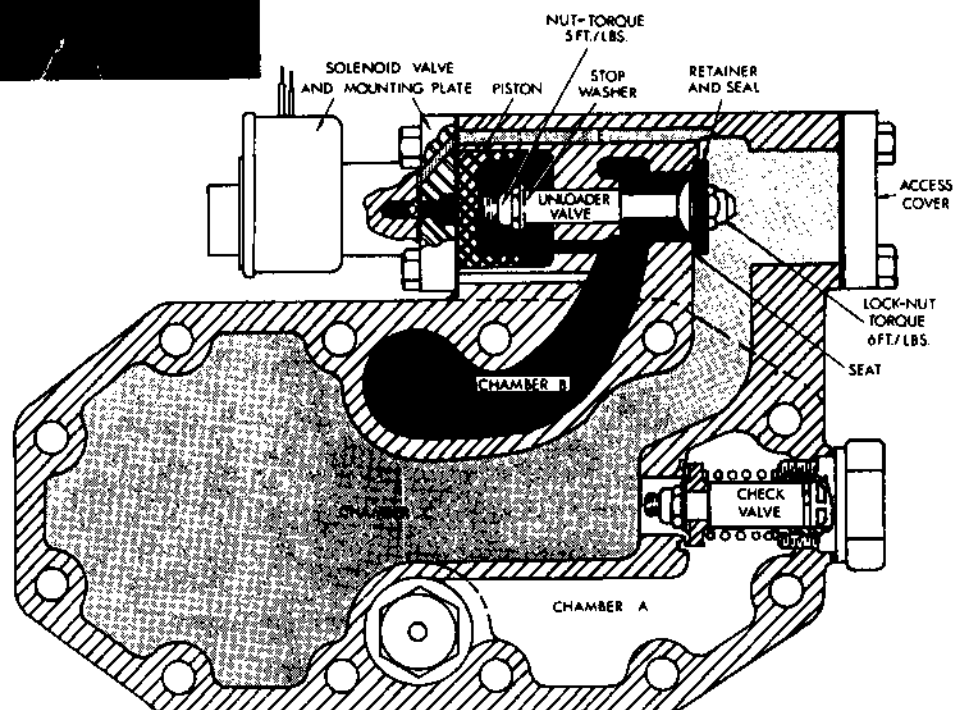

Figure 17
Figure 17 illustrates the unloader valve and related components in the unloader housing. Note the torque of the lock nuts located on both ends of the valve stem. To remove the unloader valve, the lock nut located on the piston end of the valve stem must be removed.
6. Remove the lock nut and washer at the piston end of the valve stem (Figure 20). This is the nut with the 5 FT. LBS. torque (Figure 17).